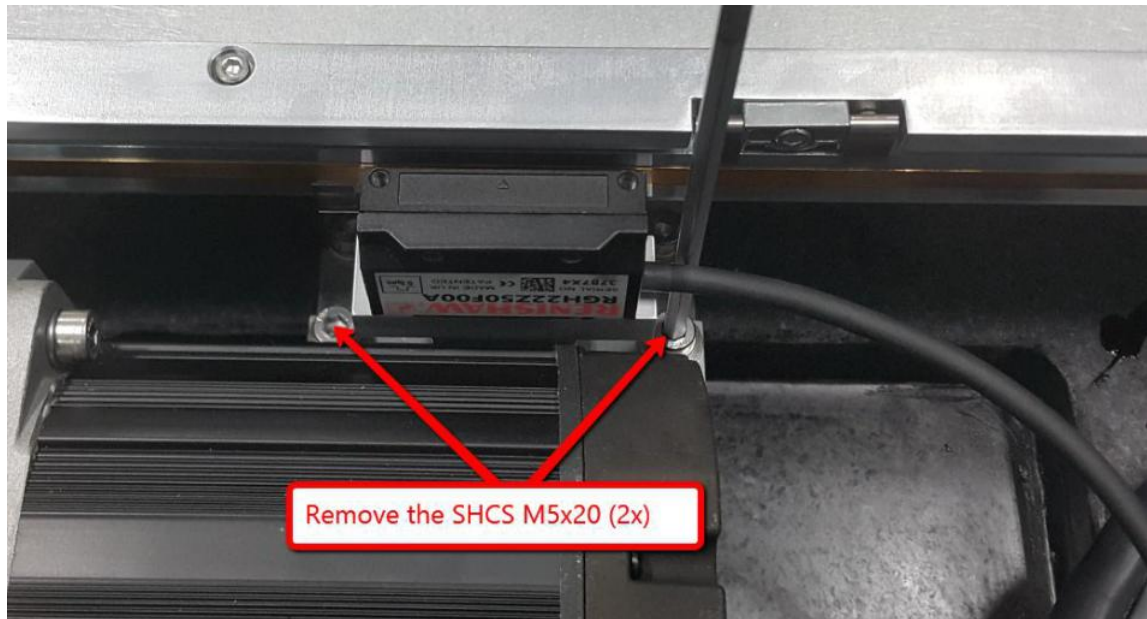

Figure 9 Y-Axis encoder
4. Assemble Y-Axis encoder as shown in Figure 9.